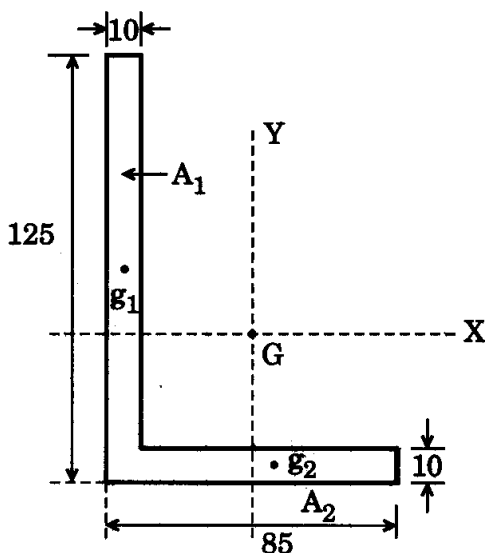

Figure 4
- (b) Determine the moment of inertia of the L-section shown in Figure 4, about its centroidal axes parallel to the legs. Also find out the polar moment of inertia.